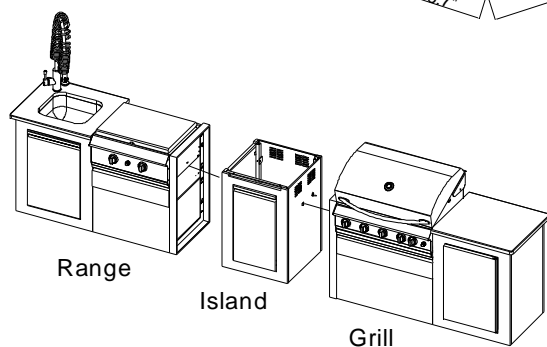

Fig. 1
- ☐ Separate the Island from Range and Grill modules. See **Fig. 1**.